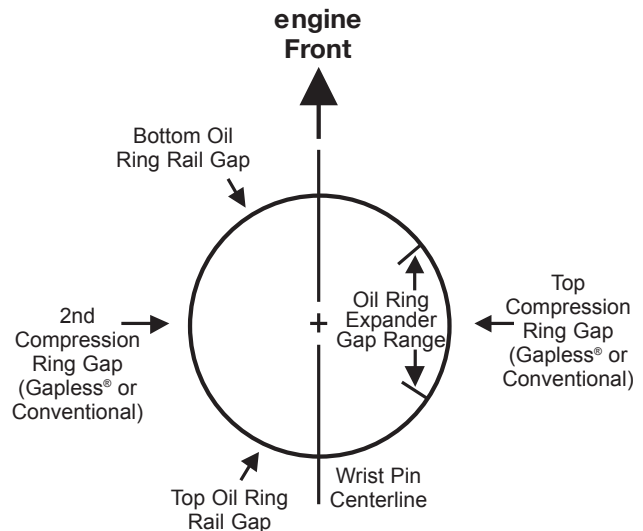

Fig. 1
- 1) Install machined ring first with groove side down and gap 180° from 2nd ring end gap (see fig. 1).
- 1) Install machined ring first with groove side down and gap 180° from top ring end gap (see fig 1).
- 1) Three piece type - install as shown in figure 1.